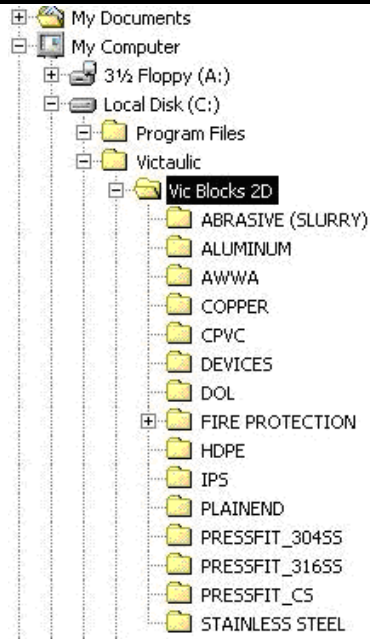

Fig. 3
- 5) After DesignCenter opens, change the view to a file tree by locating and selecting the **Folders** menu tab in the DesignCenter (fig. 3).